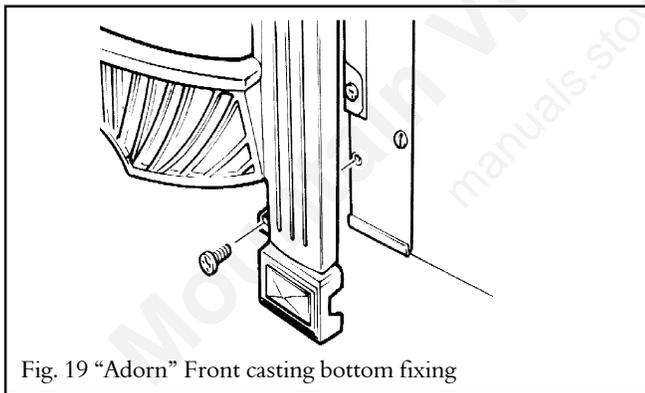

Fig. 19 “Adorn” Front casting bottom fixing
12.3 Swing the bottom control linking bar towards the center of the fire to clear the front casting/surround. Slide the front casting/surround sideways, if necessary, to align the bottom fixing holes with those in the convection box. Fix the bottom of the casting/surround to the convection box with two screws (See figure 19 or 20).